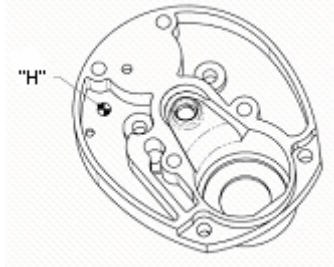

Figure 2
1. Test with the new injector plate installed per instructions in the applicable CMM. The new injector plate assembly PN 270369, Revision H, will have the revision letter molded into the part as shown in Figure 2.